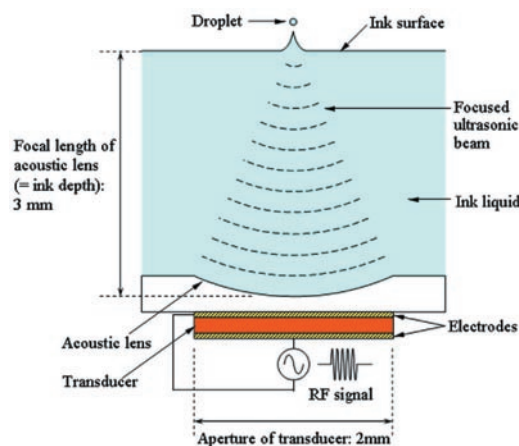

FIGURE 1 — Schematic of ultrasonic ink-jet printhead.
Figure 1 shows the fundamental principle of the ultrasonic ink-jet printhead where an ultrasonic beam generated by transducers is focused on the free liquid surface by an acoustic lens and a droplet is ejected. Ultrasonic ink-jet printing has the following advantages: (1) nozzle-less structure, which leads to less clogging and uniform droplet size with no tails; (2) a small restriction of ink properties, such as high viscosity and large-particle inclusion; (3) droplet size depends on an ultrasonic wavelength (the droplet diameter is approximately equal to the wavelength), that is, the size is controllable by transducer frequency; and (4) simple head structure, *i.e.*, no need for a narrow ink path and chamber.